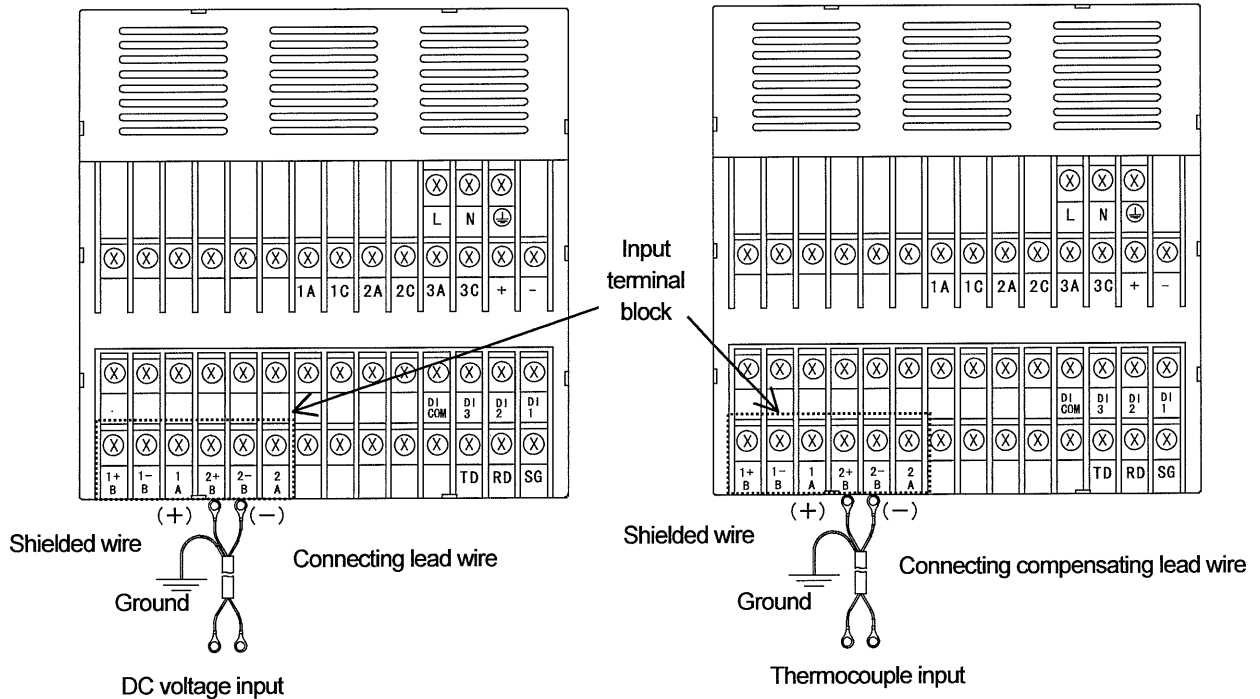
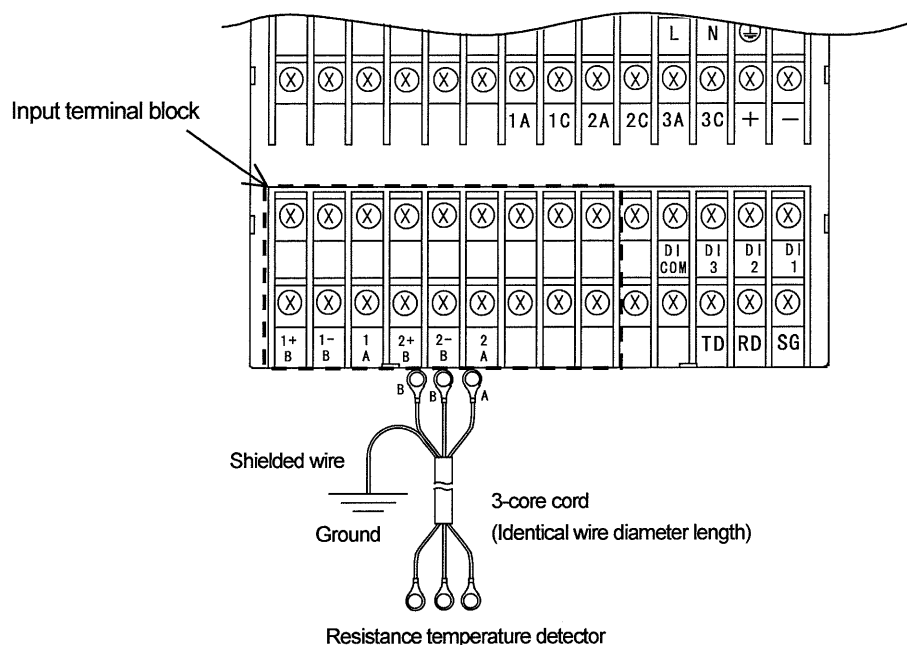
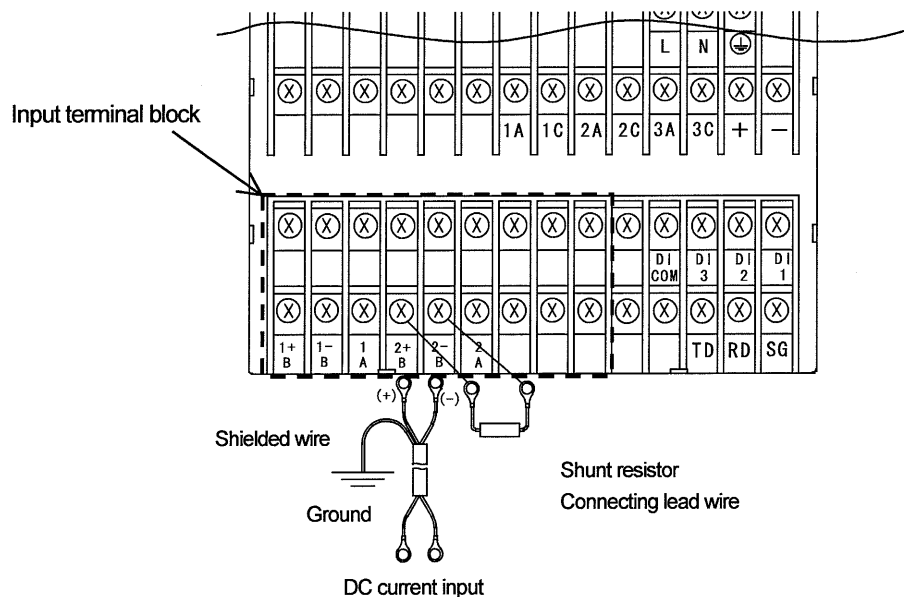

Fig. 4.3 Input Wiring (For mV, V and Thermocouple inputs)
Fig. 4.4 Input Wiring (For Resistance temperature detector)
Fig. 4.5 Input Wiring (For mA input)
- 2) Wire the input lines refer to Fig. 4.3(Page 19), Fig. 4.4 and Fig. 4.5(Page 20).